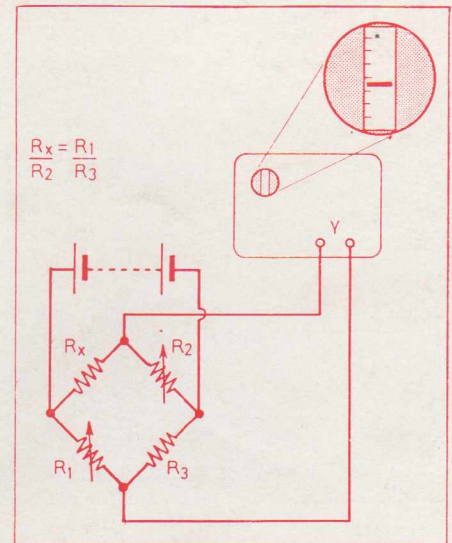

Fig. 11
- (b) Set up the circuit as shown in Fig. 11.